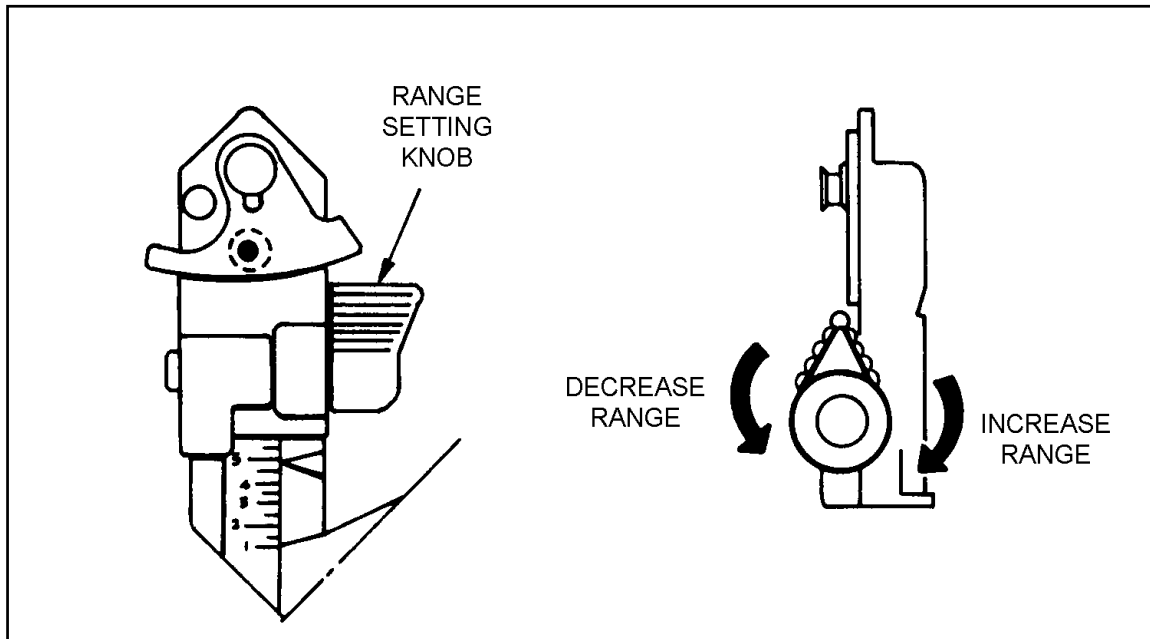

Figure 3-11. Adjusting the rear sight range setting.
(2) To increase the range setting beyond 200 meters, turn the range adjustment knob clockwise, or vice versa (Figure 3-11). You must remember to reset the range to 200 meters when you close the rear sight. Otherwise, closing the sight cover will break off the rear sight.